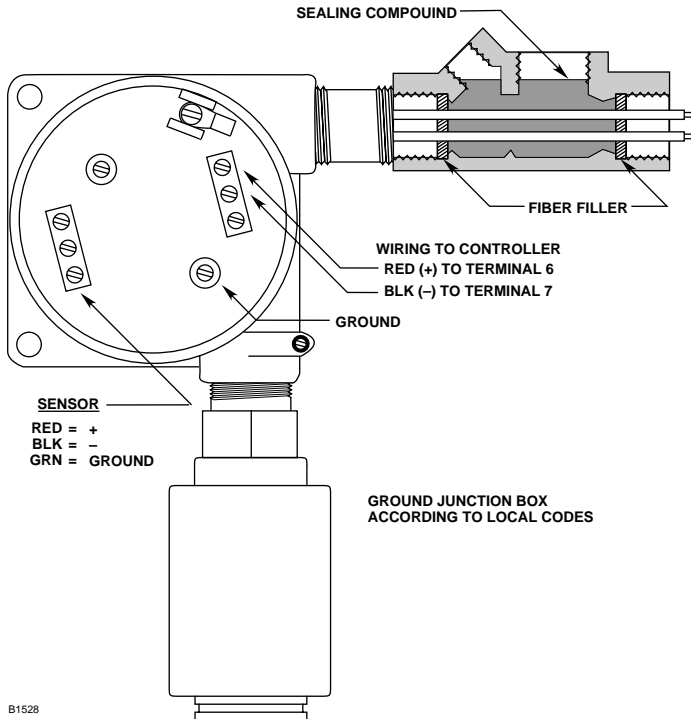

Figure 7—Sensor Wiring
8. Connect the sensor wires to the terminal block marked "to sensor." (See Figure 7.) Connect the controller wiring to the terminal block marked "to controller." Connect the shield to earth ground at the controller. Under normal conditions, the other end of the shield should not be connected at the sensor junction box unless such a connection is required by local wiring codes.